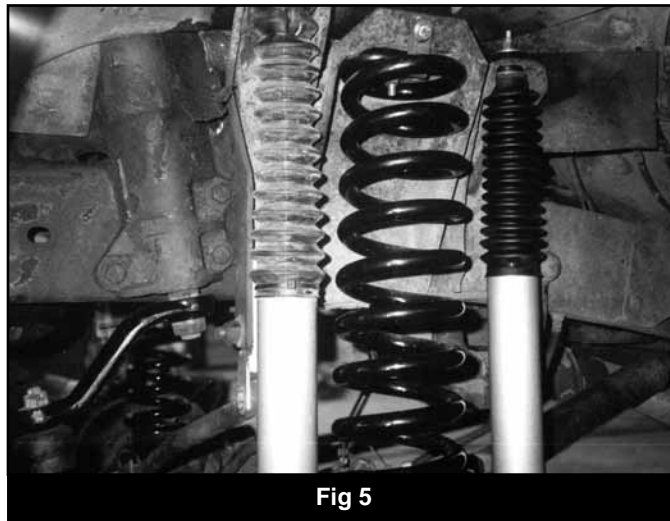

Fig 5
13. Install the new coils by turning them clockwise until they fit tight in the bottom of the pad. (Fig. 5)